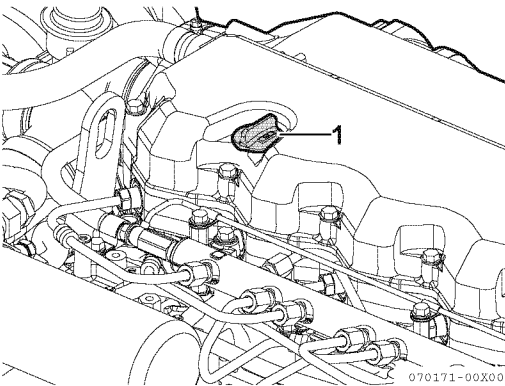

Figure 7
1. Remove the yellow oil filler port cap from filler port (**Figure 7, (1)**) and fill with engine oil.